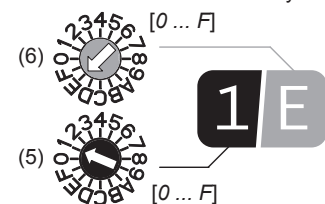

Figure 5: Example address "1/E"
The indoor station can be addressed quickly and easily using both address rotary switches (5), (6). The address to be set is 2-digit, comprising group address and intercom device address. It must be identical with the address of the associated call push-button on the door station. Figure 5 shows the structure of the address by way of example: